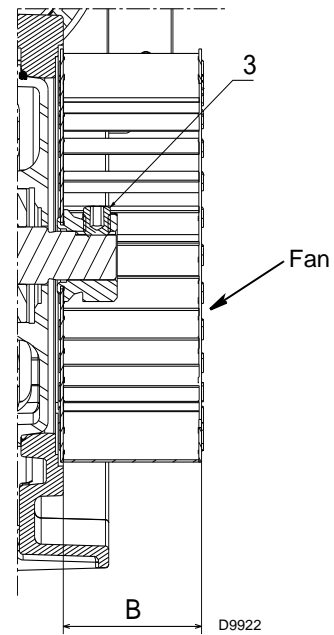

Fig. 23
- If necessary, carefully disassemble the fan (Fig. 23).
It is essential to respect position B)(Fig. 23), indicated in the table.